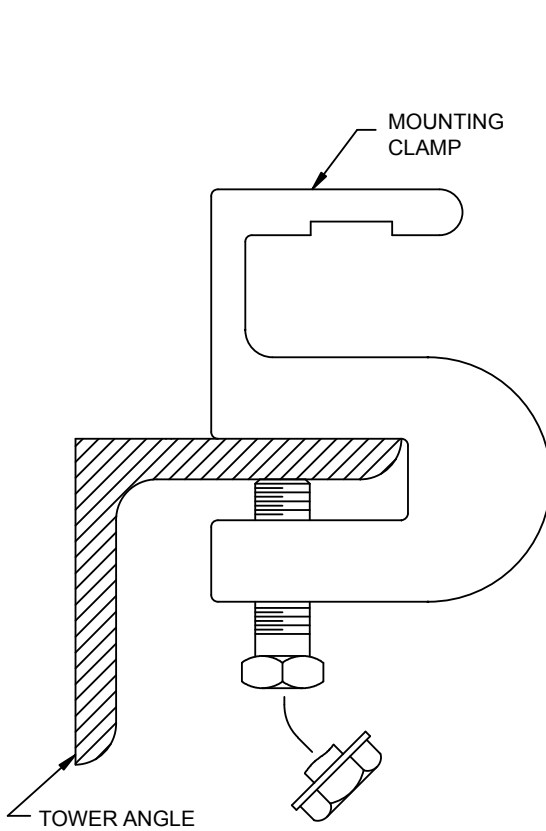

FIG. 1
1. Attach mounting clamp adapter to tower angle (as illustrated in **Fig. 1**) with break-away bolt (breaking torque range: 20-25 lbf-ft).